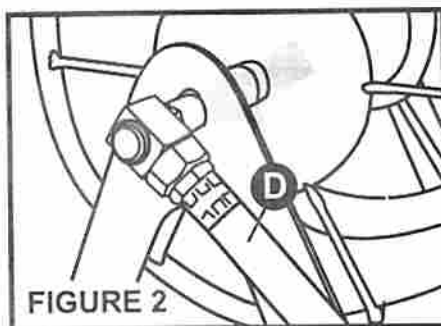

FIGURE 2
2. Attach the leader hose (D) to the swivel connector. **Figure 2**